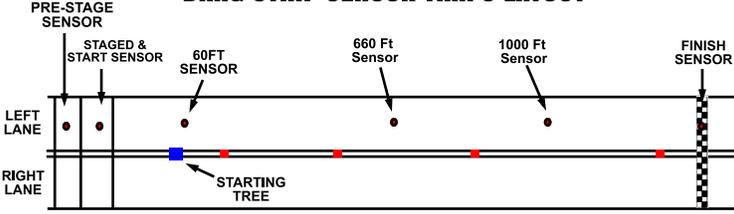

Fig. 1
1. First, position your PRE-STAGED & STAGED SENSORS on your track. The distance between each sensor and the START sensor is based on your Slot Car Guide or other device that will trigger the Sensors. In most cases you would mount each sensor 25-30mm from each other based on a 1/32 scale track. Fig. 7 & Fig. 1
7. Begin by positioning your track sensors on your track. There are 4 Sensors for each side of the track Right & Left Sides. The first sensor is the 60ft Sensor. This detects the cars speed after leaving the Staged area and will start the timing system. NOTE: If you are LAP Racing the 4 Sensors act as Staging and LAP count sensors for 1 to 4 lanes. Fig. 1